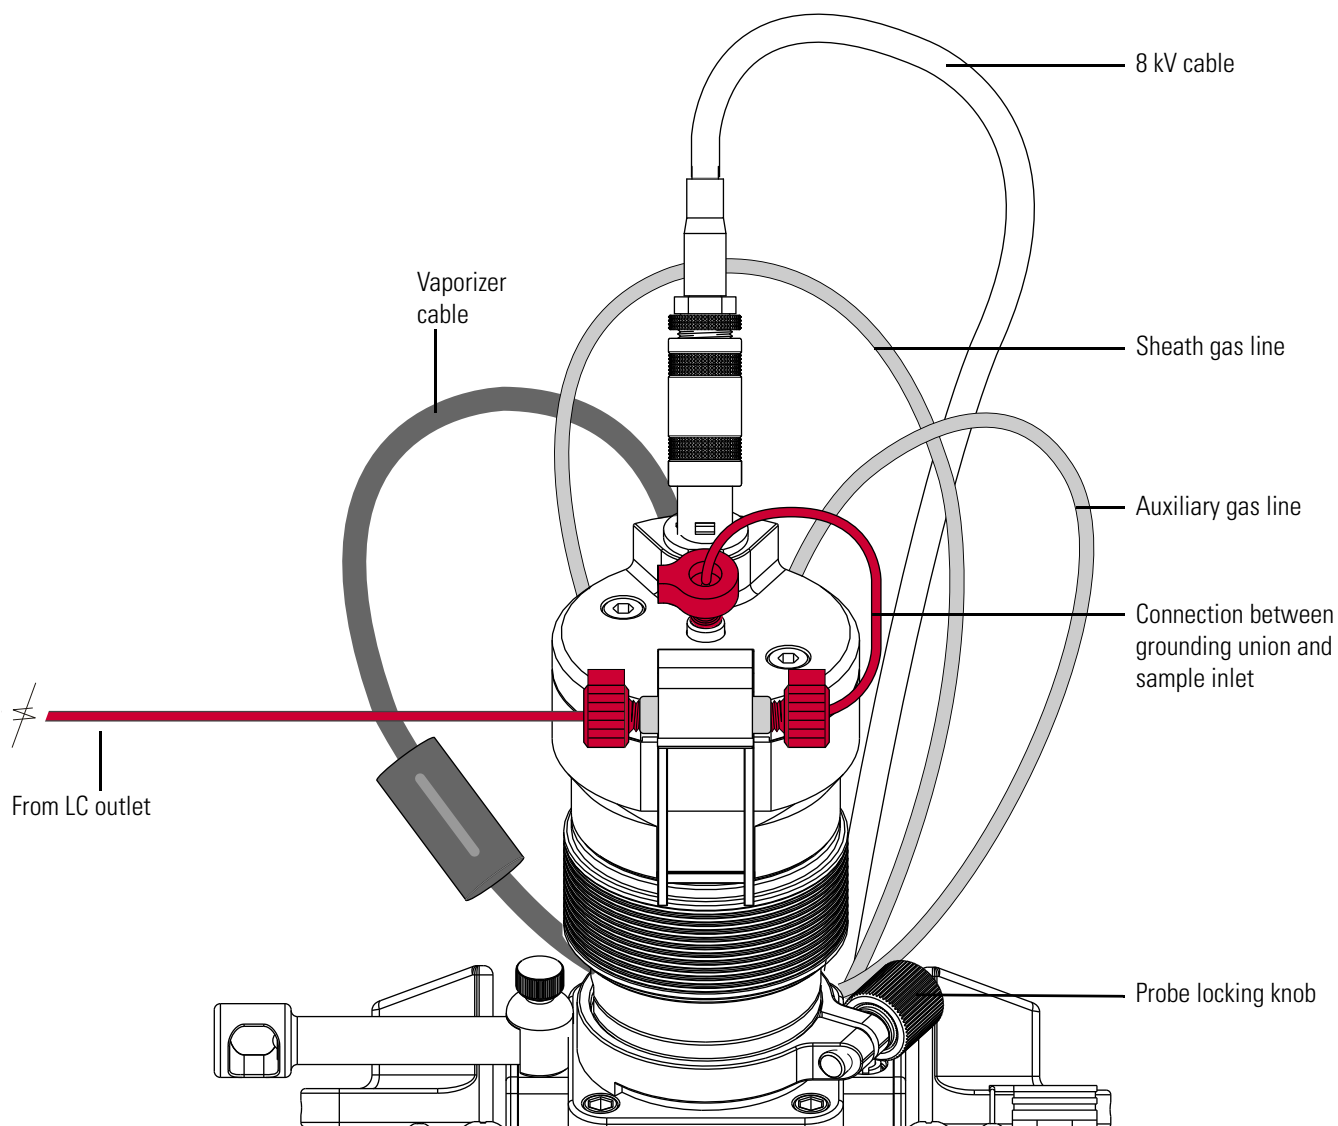

Figure 8-15. Connections to the HESI-II probe (front view)
2. If the mass spectrometer is connected to an LC system, switch off the solvent flow from the LC pump. Then disconnect the tubing from the left side of the HESI-II probe grounding union (Figure 8-15).
6. Unlock the probe locking ring by turning the probe locking knob (Figure 8-15 on page 8-33) counterclockwise.